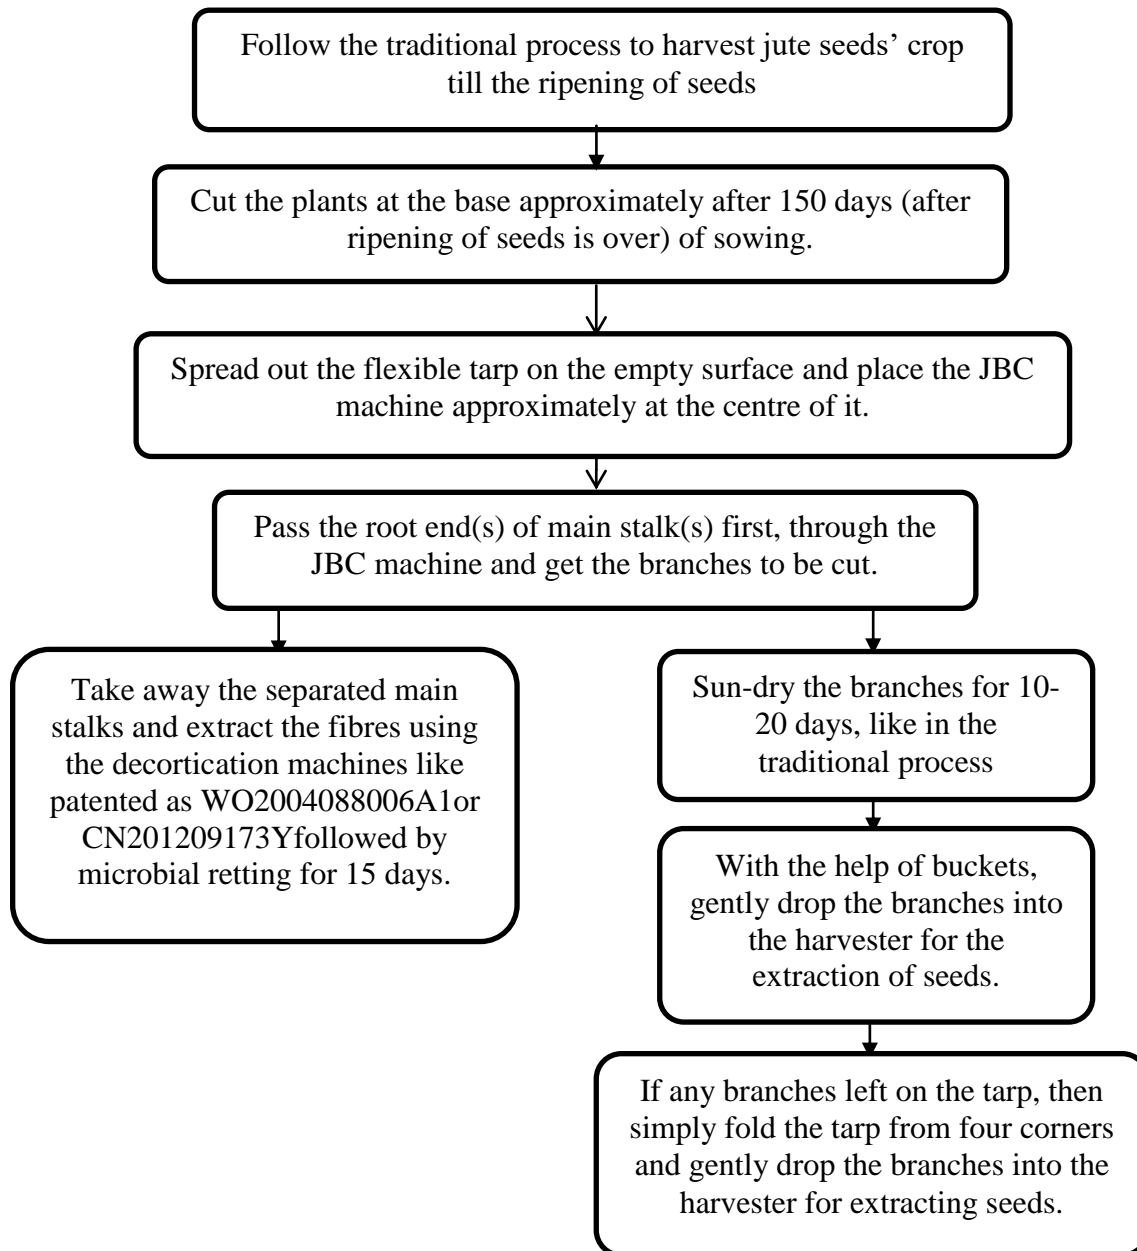

FIGURE 5
a) Figure 5 illustrates that 'how JBC machine and a tarp addition will change the traditional process for Jute seeds' harvesting into a process for extracting both seeds and fibres from one jute crop'.
b) As shown in Figure 5, the first step of the invention process is to follow the traditional process to grow or harvest jute seeds' crop till cutting the plants at the base. As discussed herein before, this is step
c) As shown in Figure 5, the second step of the invention process is to cut the main stalks of the plants, at the base. The cutting needs to be in the early morning from 6 to 10AM (mid-November to December ending), like in the traditional process so that the fall down of the seeds due to shaking, can be minimized.
d) As shown in Figure 5, the third step of the modified new process is to spread out the general purpose thicker tarpaulin or tarp on the empty surface and then placing the JBC machine approximately in the centre of tarp. It must be wide enough (about 10m*10m or above), so that the cut branches having seeds will fall within the tarp (One JBC machine typically occupies 1.5m*0.75m, needs to be placed at the centre).
e) As shown in Figure 5, the fourth step of the modified new process is to Pass the root ends of main stalks firstly, through the JBC machine and get the branches to be cut. JBC machine can also be called as Jute stalk extraction machine, which simply cuts the branches of main stalks. It has four circular cutting blades rotated by power machine, will cut the branches which are grown in 360 degree direction to the main stalk, from top to bottom. The feed is manual with 2 degrees of freedom viz., one is translation and the other one is rotation. The JBC machine is described in detail in the following sections. At the end of this step, main stalks and branches will be separated.
f) As shown in Figure 5, one branch of the fourth step of the modified process is to take away the separated main stalks and extract the fibres using the decortication machines like patented as WO2004088006A1 or CN201209173Y etc., followed by microbial (water) retting for 15 days. The fibres extracted from these stalks are either TD-5 or TD-6 (as per the authors' investigation, most of the tests resulted for TD-5 or TD-6).
g) As shown in Figure 5, another branch of the fourth step of the modified process is to Sun-dry the branches for 10-20 days, like in the traditional process. This span makes the jute seeds dry enough to get extracted, like the lentil.
h) As shown in Figure 5, the step after the sun-drying of branches for 10-20 days, of the modified process is to gently drop the branches into the harvester for the extraction of seeds, with the help of buckets, preferably. Buckets can be made of low density materials like plastic and must have a convenient open top
i) As shown in Figure 5, the last step of the modified new process is to drop the branches in the harvester, which are left on the tarp. For this, tarp needs to be folded from four corners and the branches of it simply need to be dropped into harvester for completely extracting seeds from crop.
[041] Figure 5 is a 3-D model of the JBC machine with additional blade placed on the tarp, for cutting the branches or main stalk, which are grown like shown in figure 3a), in accordance with present invention and the part identified are 25. Additional blade and 26. Jute plants grown like shown in figure 3a).